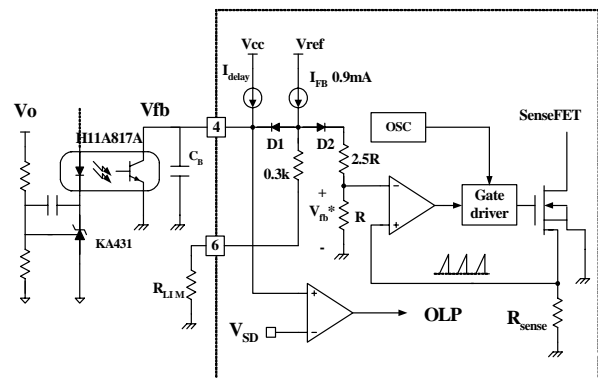

Figure 18. Pulse Width Modulation (PWM) Circuit
2. Feedback Control: The FSCM0765R employs current mode control, as shown in Figure 18. An opto-coupler (such as the H11A817A) and a shunt regulator (such as the KA431) are typically used to implement the feedback network. Comparing the feedback voltage with the voltage across the R_{sense} resistor makes it possible to control the switching duty cycle. When the reference pin voltage of the KA431 exceeds the internal reference voltage of 2.5V, the H11A817A LED current increases, thus pulling down the feedback voltage and reducing the duty cycle. This event typically happens when the input voltage is increased or the output load is decreased.
2.1 Pulse-by-pulse Current Limit: Because current mode control is employed, the peak current through the SenseFET is determined by the inverting input of the PWM comparator (V_{fb}*) as shown in Figure 18. When the current through the opto transistor is zero and the current limit pin (#5) is left floating, the feedback current source (I_{FB}) of 0.9mA flows only through the internal resistor (R+2.5R=2.8k). In this case, the cathode voltage of diode D2 and the peak drain current have maximum values of 2.5V and 3A, respectively. The pulse-by-pulse current limit can be adjusted using a resistor to GND on the current limit pin (#5). The current limit level using an external resistor (R_{LIM}) is given by: